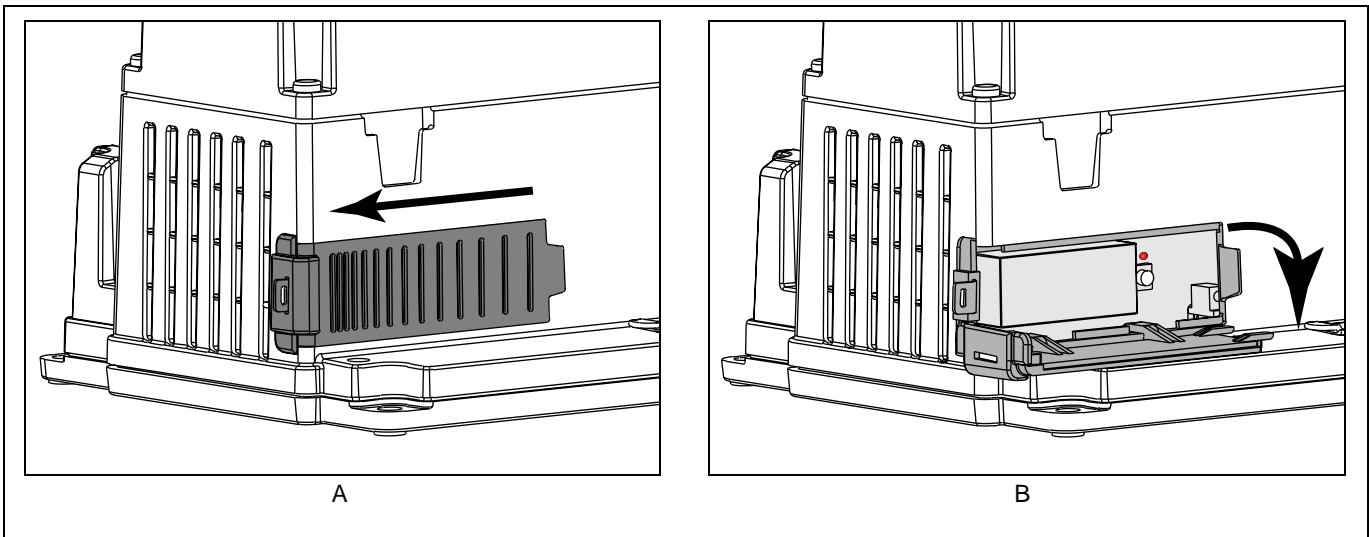

Figure 4-15 Opening the access door
2. To open the door, refer to Figure 4-15. Slide the door along the side of the circuit monitor (A), then gently pull the door down to open it (B).